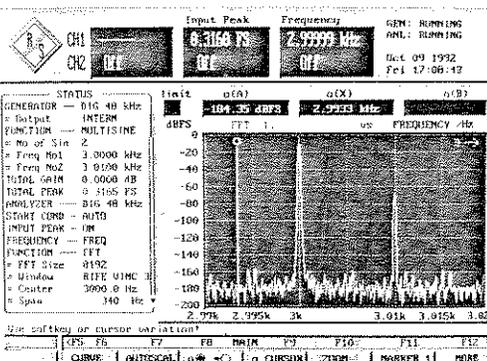

Fig. 3 Zoom FFT of a sinewave signal with a non-harmonic spaced 10 Hz away
A special feature is the zoom FFT (Fig. 3). The signal to be measured is digitally processed and the frequency resolution can be increased by a factor of 2 to 256 over a selectable range. In this way, a maximum resolution of 0.02 Hz can be obtained. It must be emphasized that this is not just a scale expansion, the measurement is really made at this higher resolution.
- Instrument settings can be displayed together with graphical and numerical results (Fig. 3).